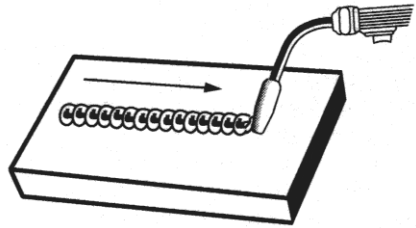

Figure 13. Stringer Bead
- The **STRINGER BEAD** (Figure 13) is formed by traveling with the gun in a straight line while keeping the wire and nozzle centered over the weld joint. This is the easiest type of bead to make.